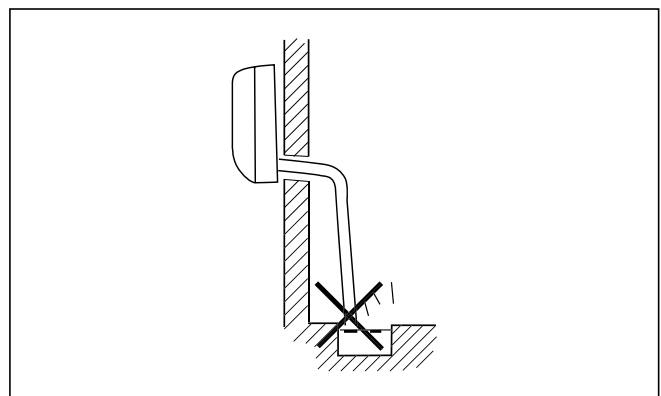

Fig. 9.6 Avoids unpleasant odours.
- Install the condensed water pipe in such a way that its free end is kept away from unpleasant odours to ensure that they do not penetrate the room (see Figure 9.6).